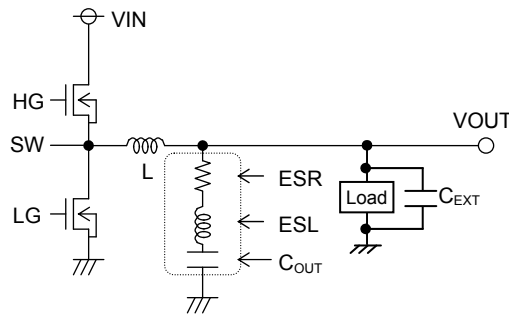

Figure.23 Output Capacitor
Also, give consideration to the conditions in formula (5) below for output capacitance, bearing in mind that output rise time must be established within the fixed soft start time. As output capacitance, bypass capacitor will be also connected to output load side ( $C_{EXT}$ , Fig.23). Please set the over current detection value with regards to these capacitance.